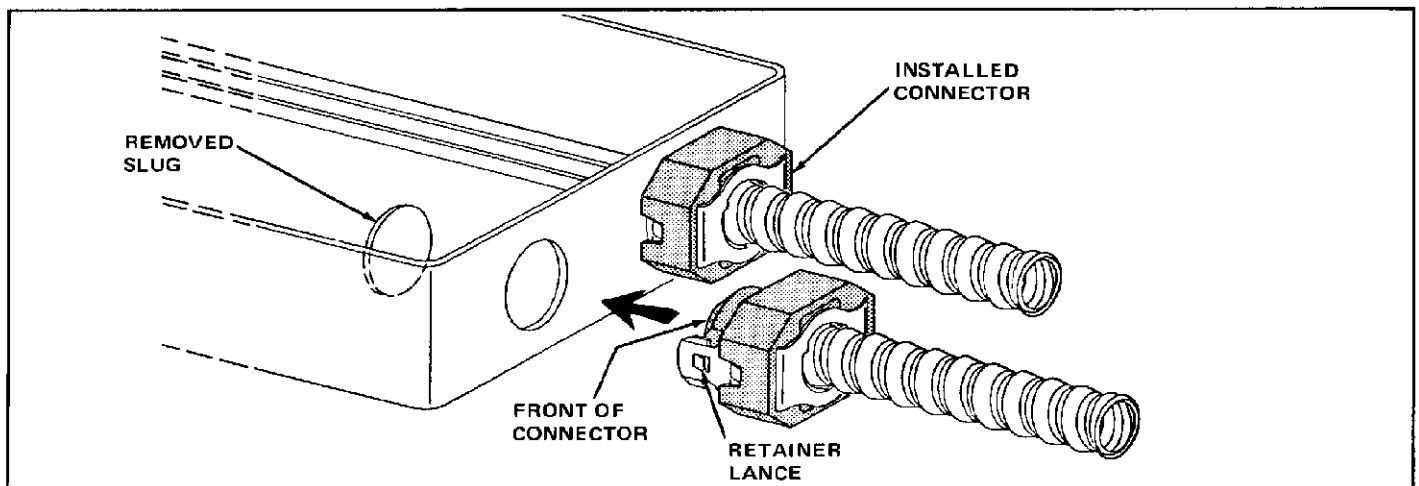

Fig. 3
3. Remove the slug from the junction box with a suitable tool — do NOT bend or otherwise deform the box. See Figure 3.
5. Push the connector straight in until it bottoms. The retainer lances will grip the box and hold the connector in position. See Figure 3.